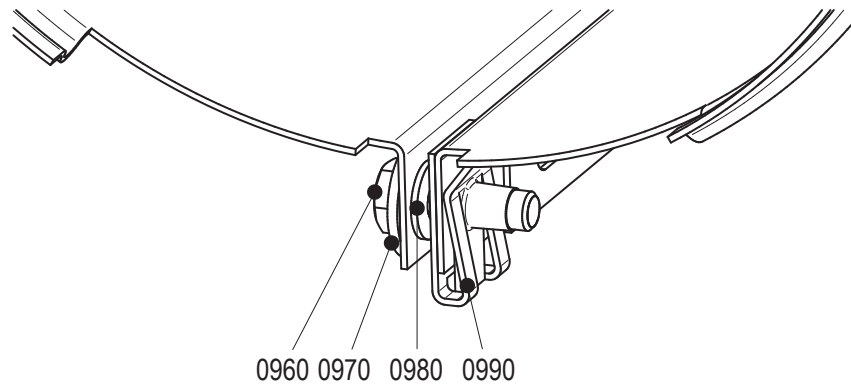

Figure 8: Fitting jacket.
- 1 Loosen bolts (0960). See figure 8.
- 3 Close the jacket and fit bolt (0960). See figure 8.
- 5 Close the jacket and fit a bolt (0230) and fit bolt (0960). See figure 8.